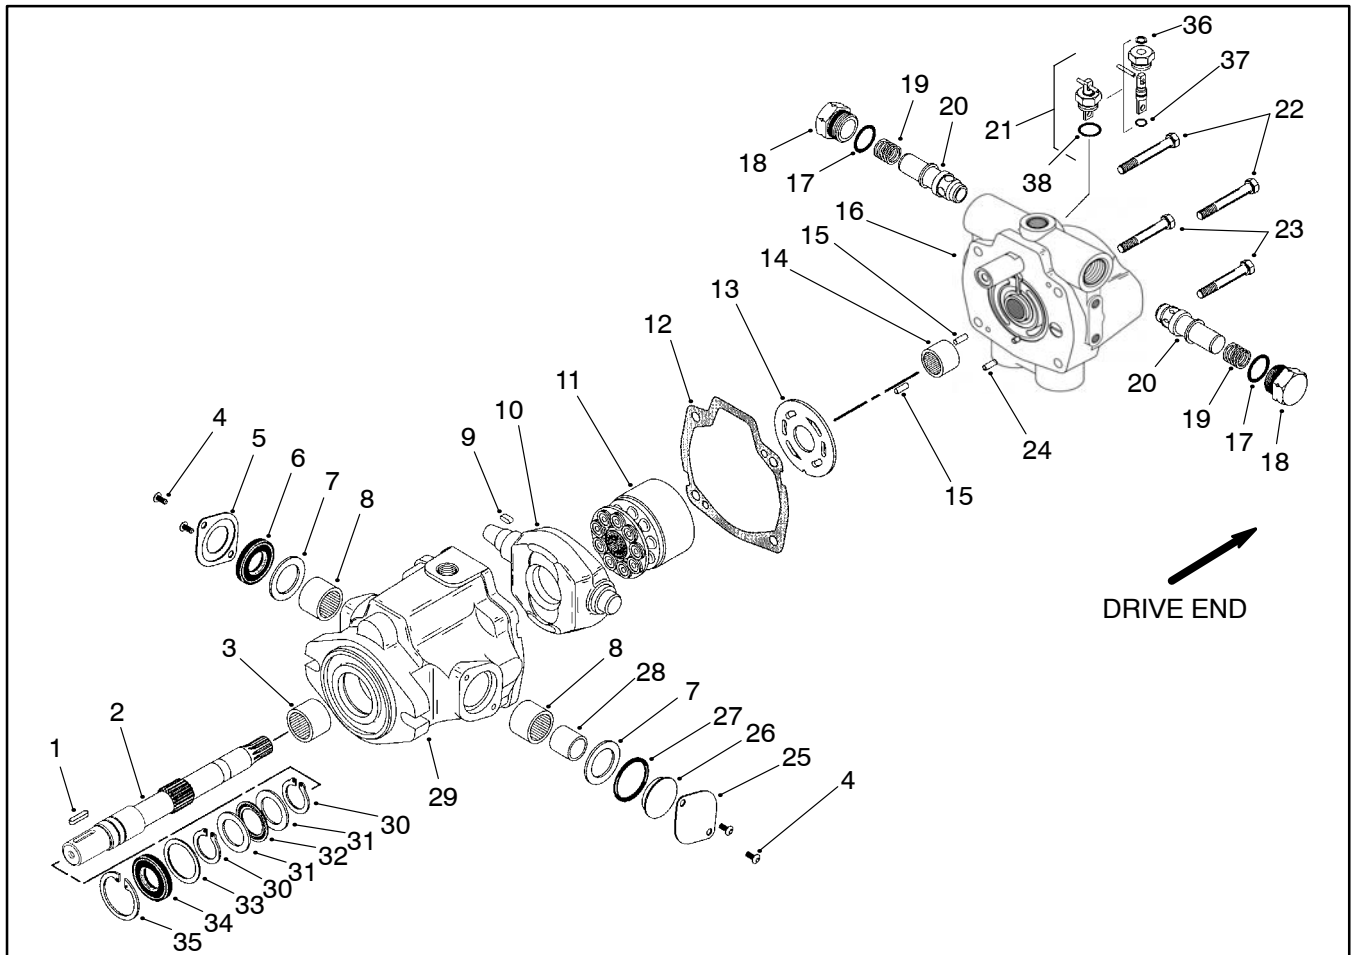

Figure 21
3. Inspect backplate assembly (16) (Fig. 21).
4. Inspect camplate assembly (10) (Fig. 21). There should be no signs of scoring on the piston shoe surfaces.
5. Inspect housing assembly (29) (Fig. 21).